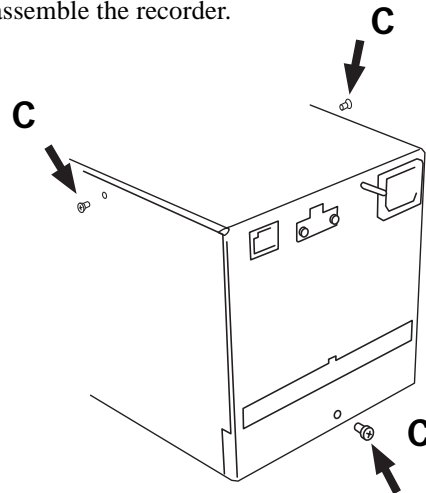

Figure B3.2b Release cover plate
3. Remove the three screws 'C' in figure B3.2b.